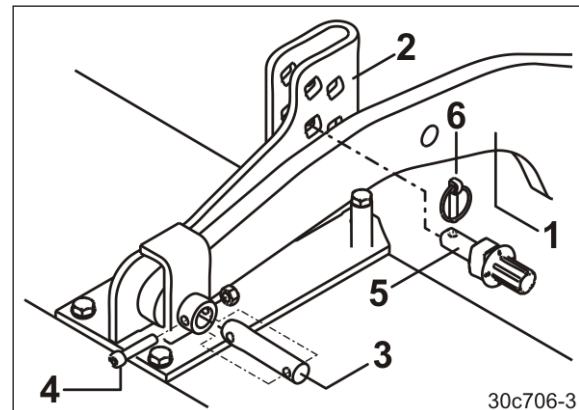

Fig. 76
4. Attach the roller carrying arm (Fig. 76/1) to the adjuster segment (Fig. 76/2) with a pin (Fig. 76/3). Secure the pin with a screw and nut (Fig. 76/4).
5. Plug the depth setting pin (Fig. 76/5) into the closest possible hole above the carrying arm and secure the depth setting pin using a lynch pin (Fig. 76/6).